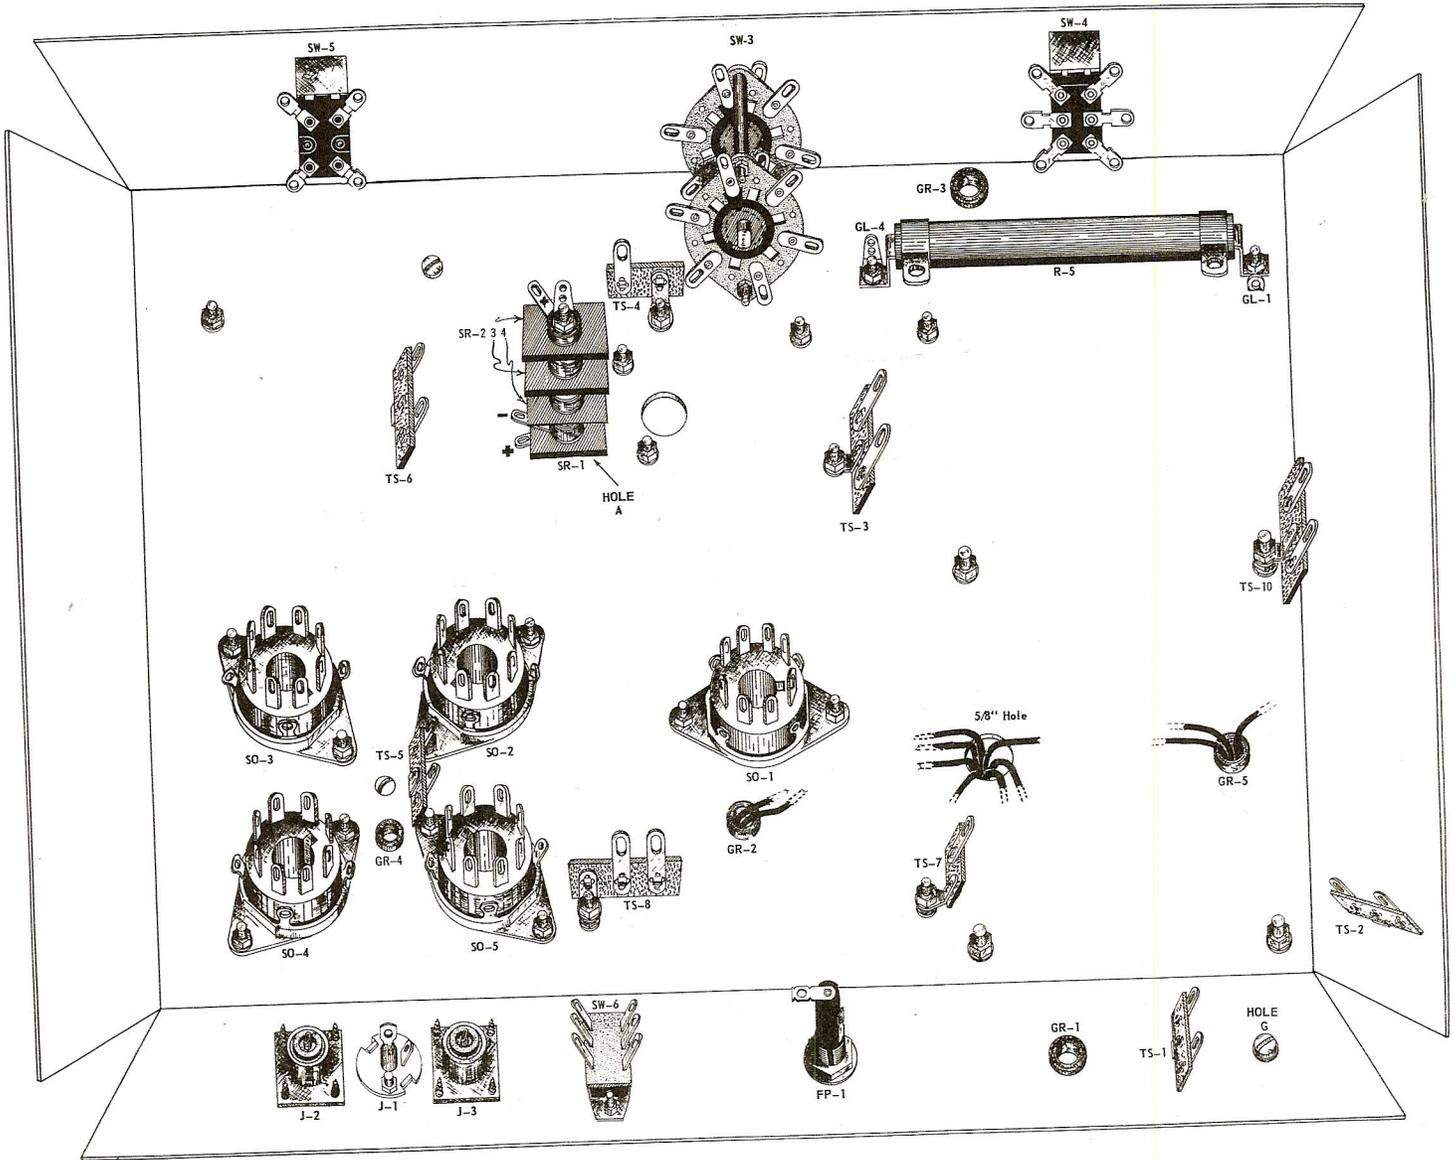
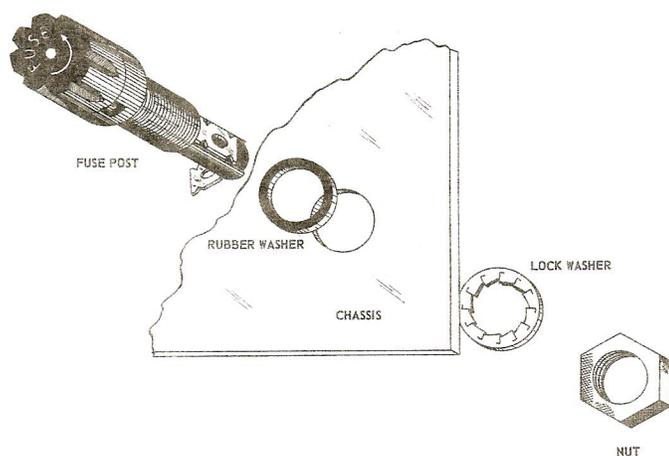

Figure 3. Bottom View, Parts Mounting.
Figure 4. Mounting Detail, Fuse post FP-1.
- 2. Lay the punched chassis before you as per Figure 3.
- 3. Install a mica filled octal socket in the chassis hole marked SO-1. The socket should be mounted on the inside of the chassis. Position the socket key way as shown in Figure 3. Use two each 6-32x5/16" screw, #6 lockwashers and
- 5. Insert the 3/8" rubber grommets GR-1, GR-2, GR-3, GR-4 and GR-5 in their respective holes as per Figure 3.
- 6. Remove the large nut and lockwasher from the fuse retainer post FP-1. Insert the post into its hole, position the lugs as per Figure 3. Slip the large lockwasher over the post and add the large hex nut. Tighten securely without using undue pressure as the post will crack if tightened excessively. Refer to Figure 4 on page 8.
- 7. Install the DPDT slide switch SW-6 from inside the chassis. Use two each 4-40x3/8" screws and 4-40x3/16" hex nuts. Tighten securely. Refer to Figure 3.
(a) Insert the threaded shank of the receptacle through its respective hole from inside the chassis. Position as per Figure 3. Align the four mounting holes.
9. Install the R.F. input jack J-1 from inside the chassis. Position as per Figure 3. Use two each 6-32x5/16" screws and 6-32x1/4" hex nuts. Tighten securely.
12. Install the 2-lug tie strip TS-1. Position as per Figure 3. Use a 6-32x5/16" screw, a #6 lockwasher and a 6-32x1/4" hex nut. Tighten securely.
- Position as per Figure 3. Use a 6-32x5/16" screw, a #6 lockwasher and a 6-32x1/4" hex nut. Tighten securely.
14. Install the 2-lug tie strip TS-3. Position as per Figure 3. Use a 6-32x5/16" screw, a #6 lockwasher and 6-32x1/4" hex nut. Tighten securely.
15. Install the 1-lug tie strip TS-4. Position as per Figure 3. Use a 6-32x5/16" screw, a #6 lockwasher and a 6-32x1/4" hex nut. Tighten securely.
16. Install the 2-lug tie strip TS-5. Position as per Figure 3. Use a 6-32x5/16" screw, a #6 lockwasher and a 6-32x1/4" hex nut. Tighten securely.
17. Insert the metal end brackets into the ends of the 50K ohm, 50 watt resistor R-5. Insert a 6-32x5/16" screw into each of the respective mounting holes from the outside of the chassis. Add #6 solder lugs GL-1 and GL-4 from the inside of the chassis. Mount resistor R-5 in position as per Figure 3. Add a #6 lockwasher and a 6/32x1/4" hex nut to each of the screws. Position solder lugs GL-1 and GL-4 as per Figure 3. Tighten the hex nuts securely.
- from the top side of the chassis. Mount selenium rectifier SR-1 on this screw from the under side of the chassis. The positive (+) lug of the rectifier should be towards socket SO-2 as per Figure 3. Add the three connected rectifiers SR-4, SR-3 and SR-2 to the screw. SR-4 should bear against SR-1. The plus (+) sign on the positive lug of SR-2 should be visible after the rectifiers are mounted.
- 23. Position rectifiers SR-1, SR-4, SR-3, SR-2 and the solder lug as per Figure 3. Tighten the nut securely.
- 24. Mount the filter choke CH-1 on the top of the chassis. Insert the choke leads through grommet GR-2. Use two each 6-32x1/2" screws, #6 lock washers and 6-32x1/4" hex nuts to mount the choke. Tighten securely. Refer to Figures 3 and 5.
- 30. Slip a #6 lockwasher over a 6-32x1/4" screw. Insert the screw into the mounting hole of the 2-lug tie strip TS-6. Thread the screw into the bottom rear mounting hole of variable capacitor C-11. Position tie strip TS-6 as per Figure 3. Tighten the screw securely.
- 31. Mount the 1-lug tie strip TS-7 on the mounting screw of filter choke CH-1 and position as per Figure 3. Slip a #6 lockwasher over the screw, add a 6-32x1/4" hex nut and tighten securely.
- 32. Mount the specially cut 2-lug tie strip TS-8 on the other mounting screw of filter choke CH-1. Position as per Figure 3. Slip a #6 lockwasher over the screw, add a 6-32x1/4" hex nut and tighten securely.
- 34. Mount the 2-lug tie strip TS-10 (with a 3/16" mounting hole) on the mounting screw of transformer T-1 as per Figure 3. Slip a #10 lockwasher over the screw, add a 10-32x5/16" hex nut, position as per Figure 3 and tighten securely.